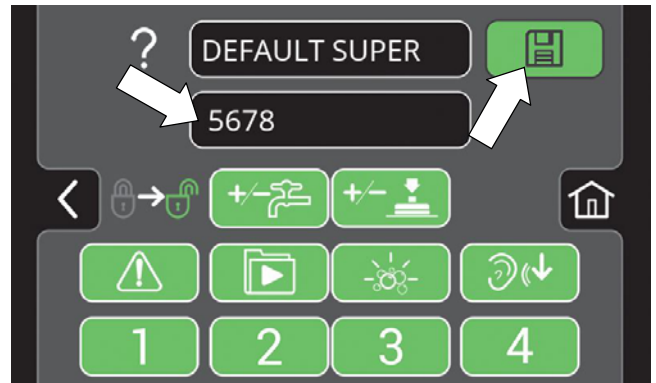

FIG. 182
5. Press the factory-assigned login code and enter a new login code (Figure 182). Press the flashing save button to save the new login code.